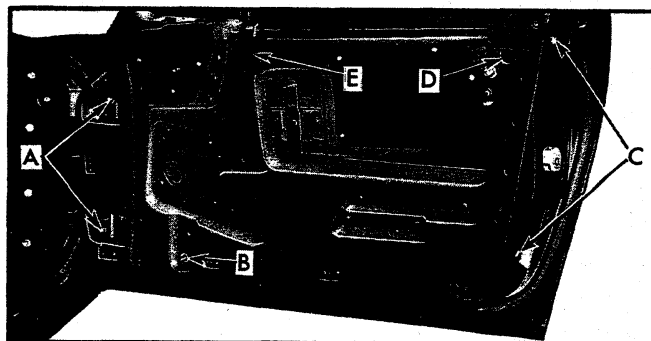
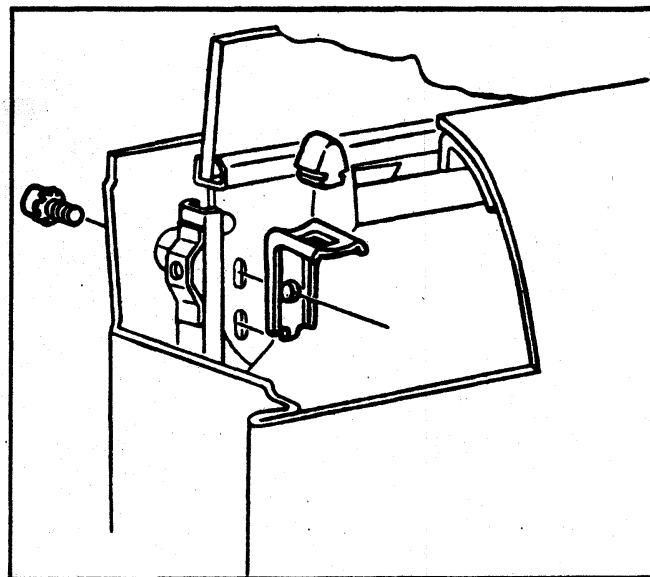

Fig. 25—Door Adjustment Points
Fig. 26—Window Rear Stop - Typical
To move the top of the window in or out, the bottom ends of both run channels are adjustable. The rear channel is adjusted by loosening the lower of the two screws on the rear face of door, "C" Figure 25, and moving channel as necessary. The front channel is adjusted by removing the trim pad and moving the channel in or out by a stud and nut adjustment, "B" Figure 25. The top end of the rear channel is not adjustable in or out.
On 19467 models an adjustment may be made to the closed-door relationship of the vent assembly to the windshield frame. This adjustment is controlled by the stud-nut assembly "B" Figure 25.
The closed position of the window is controlled by bumper assemblies located at each end of window frame as shown in Figure 26. Access to bumper retaining screw may be gained through holes "D" and "E" in Figure 25.
3. Adjust door as required. Location of hinge retaining bolts may be seen in Figure 25 at "A". Do not allow doors to hang on one hinge without support.